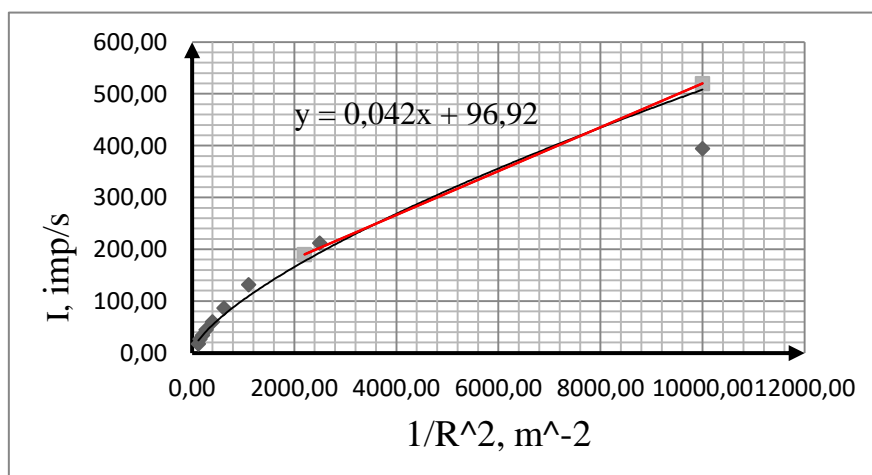

Fig. 7.1.3
4. Construct  $I$  dependency graph from  $R^{-2}$  using the Excel with equation this function (Fig. 7.1.3).